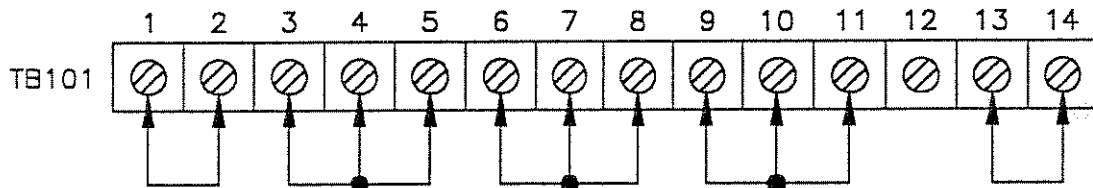

Figure 2: Normal Operation.
- A. Check the barrier jumper straps on the back of the unit, as shown in Figure 2, for normal mode.
- D. Turn the CIRCUIT BREAKER (1) on/off switch to "on". The fans will start immediately but there is a 10 to 15 seconds delay before voltage or current output will occur. This is caused by the soft start circuit.
- E. The UNIT ON INDICATOR (2) should be lit.
- F. Advance CURRENT CONTROL (6) one-half turn and slowly advance VOLTAGE CONTROL (3). The DC VOLTMETER (4) will deflect from zero to maximum rating of the supply as this control is advanced completely clockwise. The VOLTAGE INDICATOR (5) will be lit.
I. Turn the circuit breaker-on/off switch to "on". Advance the VOLTAGE CONTROL (3) one turn clockwise and slowly advance the CURRENT CONTROL (6). The DC AMMETER (7) will deflect smoothly from zero to the rated current of the supply as this control is advanced clockwise. The CURRENT INDICATOR (8) will be lit.